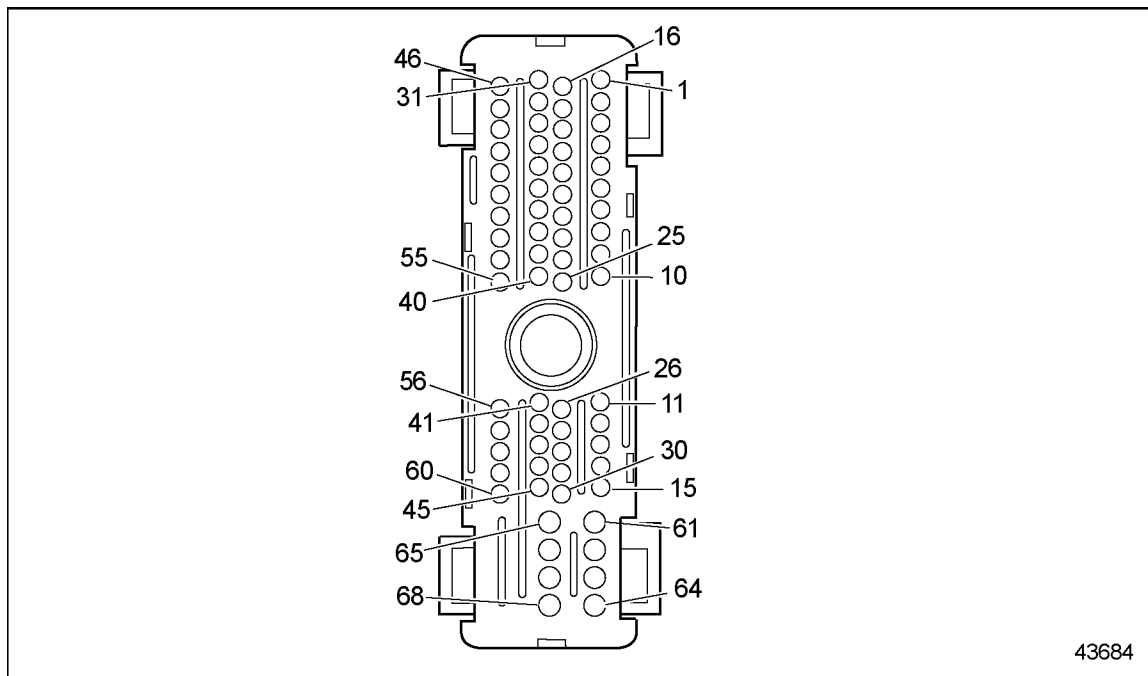

Figure 24-5 ECM/ECM/ECU Engine Harness Connector
3. Measure resistance between sockets E-7 and E-15 on the Engine Harness connector. See Figure 24-5.
5. Check terminals at the ECM/ECU engine harness connector (both ECM/ECU and harness side) for damage: bent, corroded and unseated pins or sockets. Check terminals E-7 and E-15 of the ECM/ECU connector. See Figure 24-5.